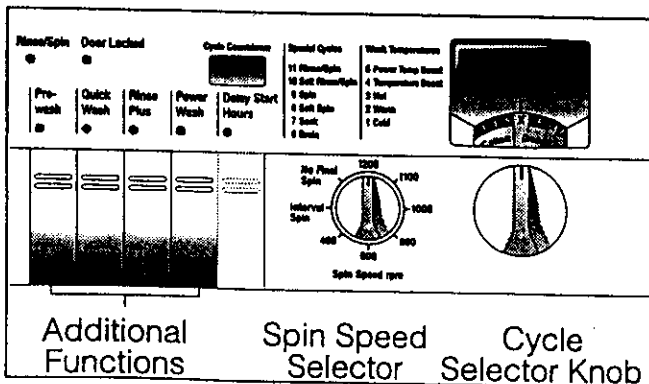

Figure 8.
- III. Use the Cycle Selector, see Figure 8, to select the cycle desired. The cycle length, in minutes, will be displayed in the "Cycle Countdown" alphanumeric display.